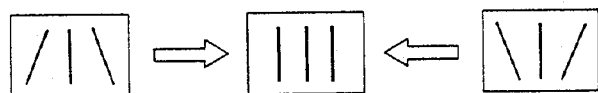

Fig. 28-5
4. Minimize the side pincushion tilt distortion with S.P.T (RV7) on the D board as shown in Fig 28-5.